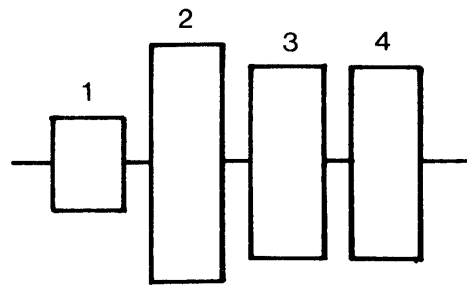

Figure 4-11. Head Azimuth Acceptable Upper Limits
- Figure 4-11 depicts an alignment of exactly plus 9, 12, or 18 minutes, depending upon the manufacturer of the diskette. Bursts 3 and 4 are of equal amplitude. This is the upper limit of allowable error. If this signal is observed, the Cats Eye alignment should be checked.